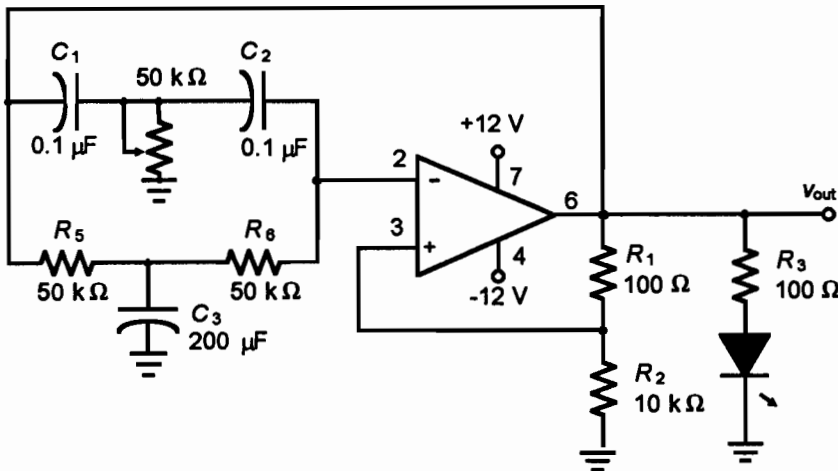

Figure 50.2
1. Calculate  $f_c$  for the circuit in Figure 50.2.
2. Construct the circuit in Figure 50.2.